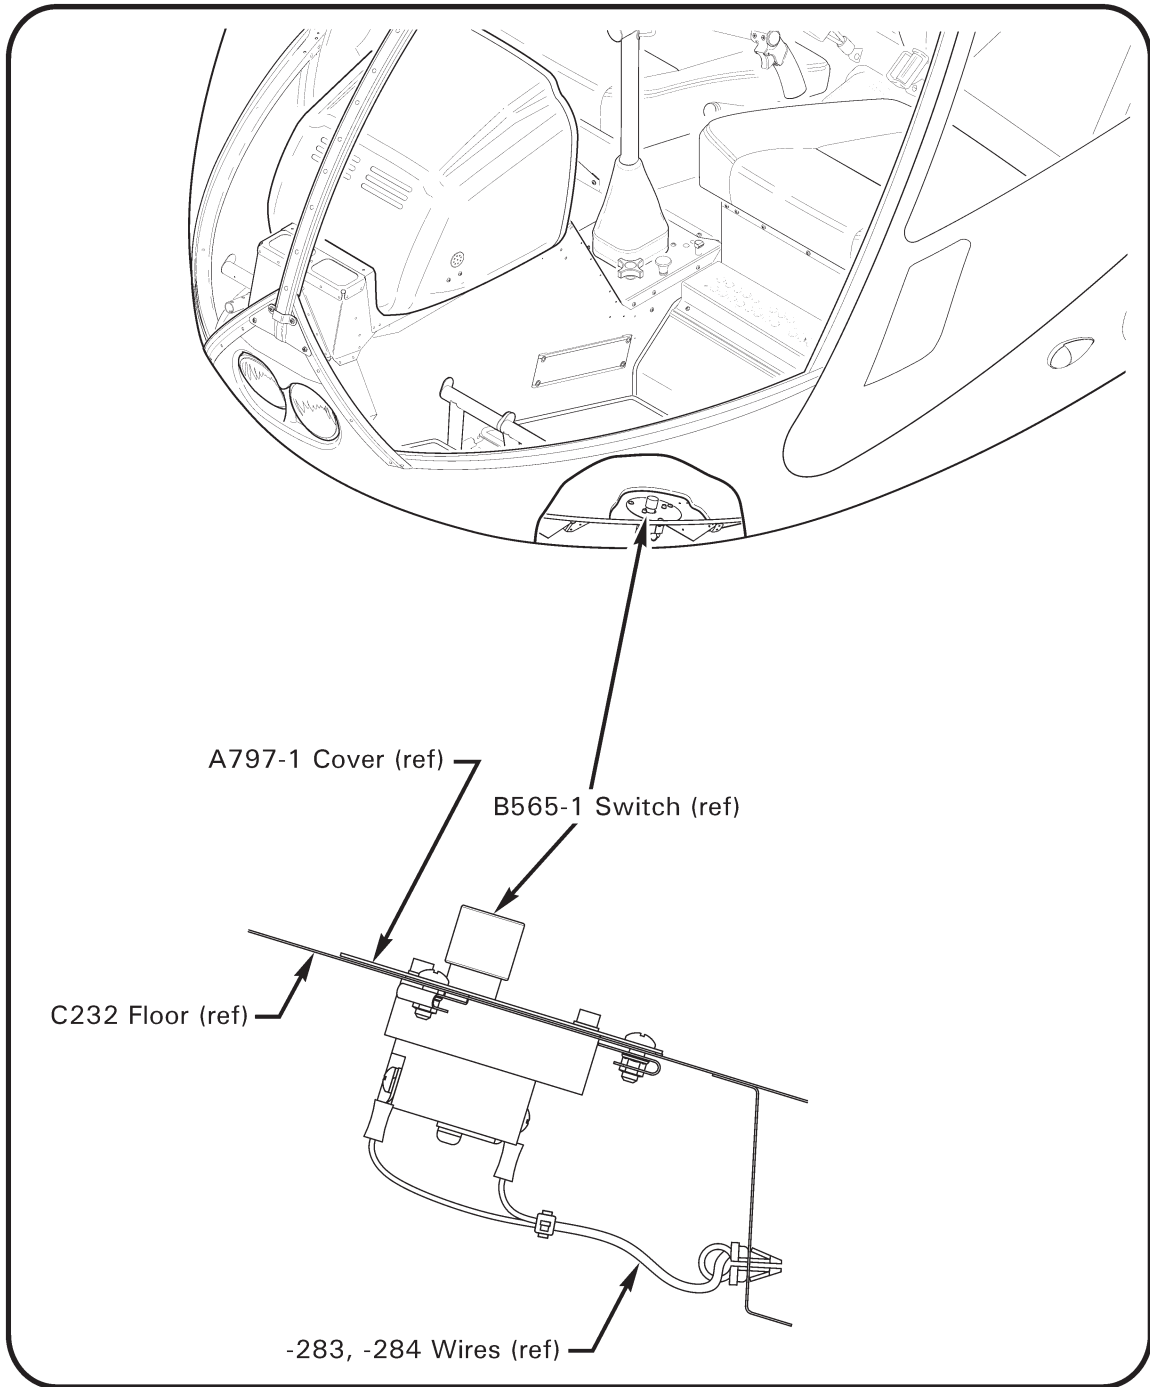

Figure 3 B565-1 Switch location
7. Refer to Figure 3. Remove installation hardware securing A797-1 cover and B565-1 switch. Retain hardware and cover. Trim wires (-283) & (-284), leaving ring terminals on switch; remove and discard switch.